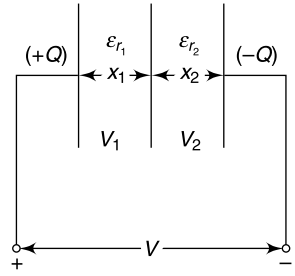

Fig. 2.22 *Parallel plate capacitor with composite dielectric*
shown in Fig. 2.22. The plates are of identical cross-sectional area (A) square metre and the charge accumulated in the capacitor is Q coulombs when a p.d. of (V) volts is applied across the capacitor terminals.